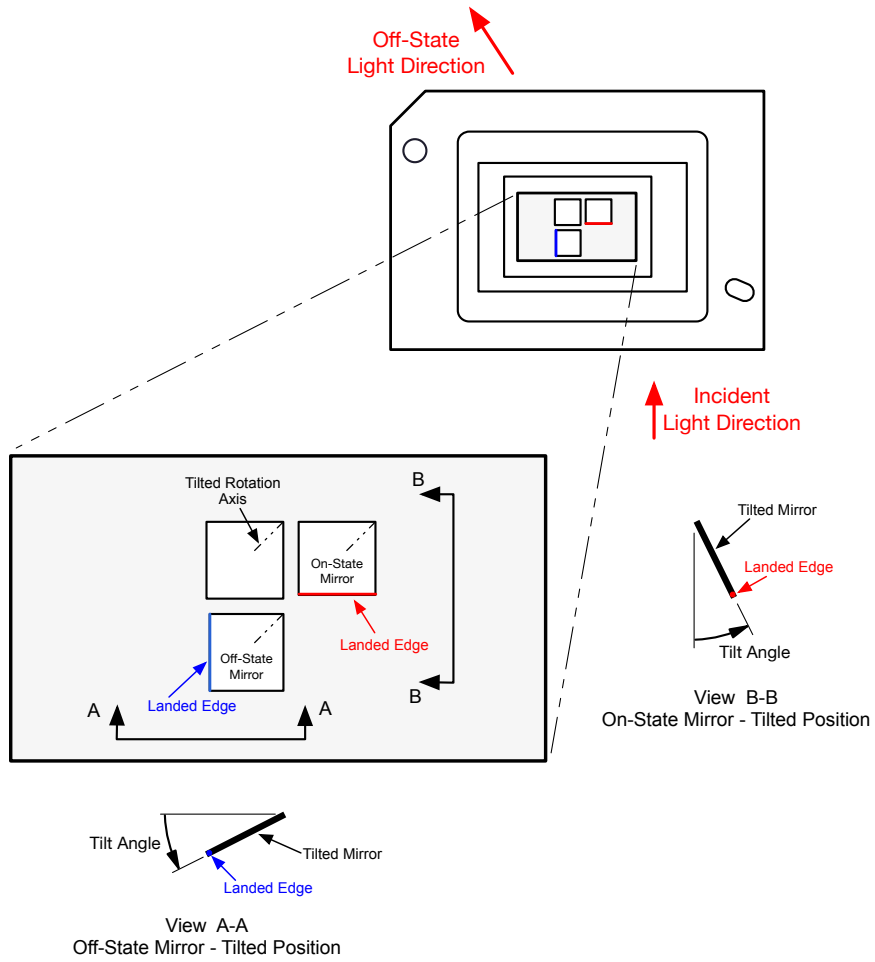

图 6-15. Micromirror Landed Orientation and Tilt
- (1) Measured relative to the plane formed by the overall micromirror array.
- (2) Represents the variation that can occur between any two individual micromirrors, located on the same device or located on different devices.
- (3) For some applications, it is critical to account for the micromirror tilt angle variation in the overall system optical design. With some system optical designs, the micromirror tilt angle variation within a device may result in perceivable non-uniformities in the light field reflected from the micromirror array. With some system optical designs, the micromirror tilt angle variation between devices may result in colorimetry variations, system efficiency variations or system contrast variations.
- (4) When the micromirror array is landed (not parked), the tilt direction of each individual micromirror is dictated by the binary contents of the CMOS memory cell associated with each individual micromirror. A binary value of 1 results in a micromirror landing in the ON State direction. A binary value of 0 results in a micromirror landing in the OFF State direction. See Figure 6-15.
- (5) The time required for a micromirror to nominally transition from one landed state to the opposite landed state.
- (6) The minimum time between successive transitions of a micromirror.
- (7) Conditions of Acceptance: All DMD image quality returns will be evaluated using the following projected image test conditions:
- (8) Bright pixel definition: A single pixel or mirror that is stuck in the ON position and is visibly brighter than the surrounding pixels.